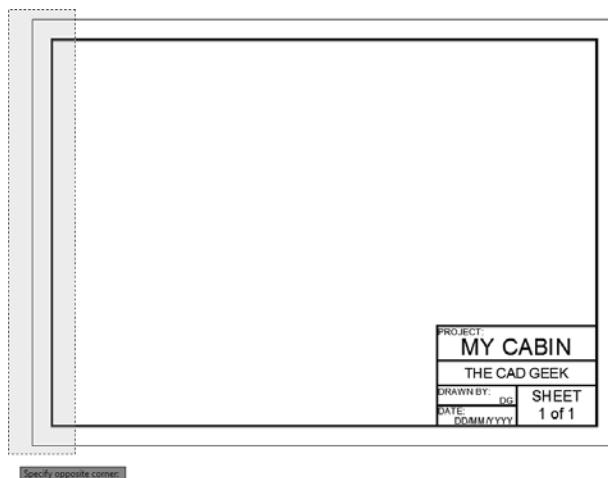

FIGURE 14.8 Stretching the left edge of the title block
4. Start the STRETCH command once again, this time drawing a crossing window along the left edge of the title block as shown in Figure 14.8.